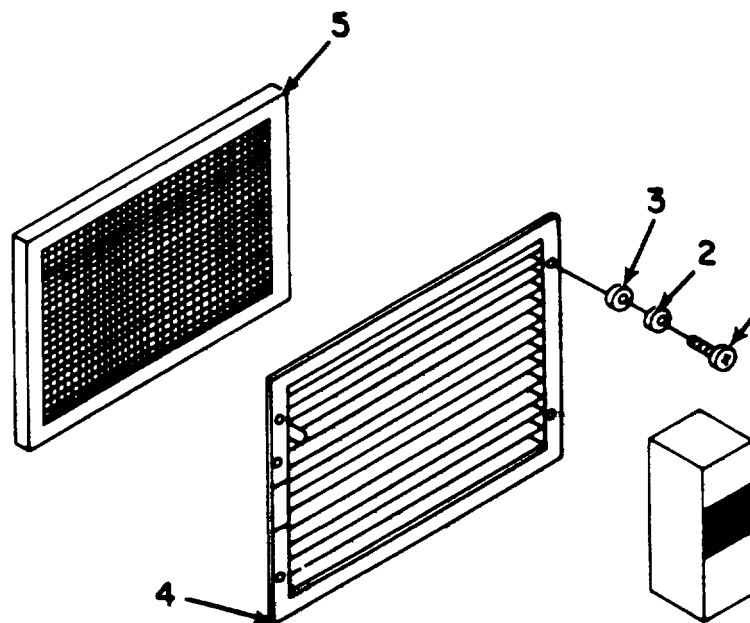

Figure 4-11. Return Air Filter.
**a. REMOVAL.** Remove air filter (5) from clip inside casing. See Figure 4-11.